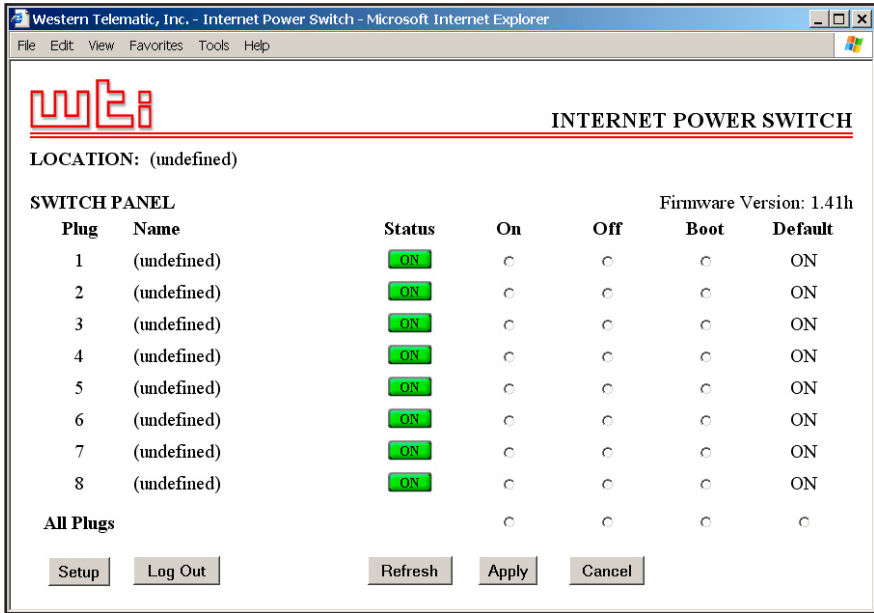

Figure 6.1: Plug Status Menu - Web Browser Interface (IPS-800-D20 Shown)
When you login to the IPS command mode using the Web Browser Interface, the first screen that is displayed is the Plug Status Screen (or "Switch Panel".) The Plug Status Screen (Figure 6.1) lists the current On/Off status of the IPS's Switched Outlets and provides a series of "radio buttons" which are used to control On/Off/Boot switching of the outlets.
2. When the Plug Status Screen (Figure 6.1) appears, note that the screen includes a status field and switching and reboot controls for each of the IPS's Switched AC Outlets.